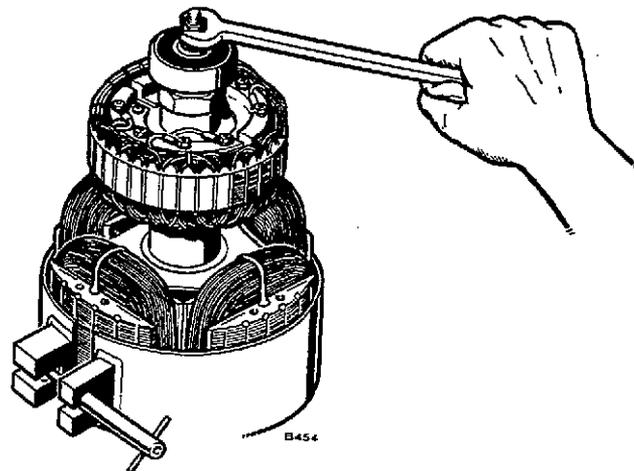

FIGURE 64. ROTOR THROUGH-STUD NUT REMOVAL
- Hold rotor in a suitable clamp and loosen nut on rotor-through-stud bolt as shown in Figure 64.